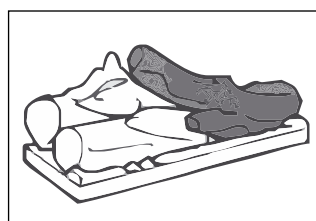

FIG 20
c) Place log #3 on single right front pin, ensure fork locates over log #2. Refer **FIG 20**.